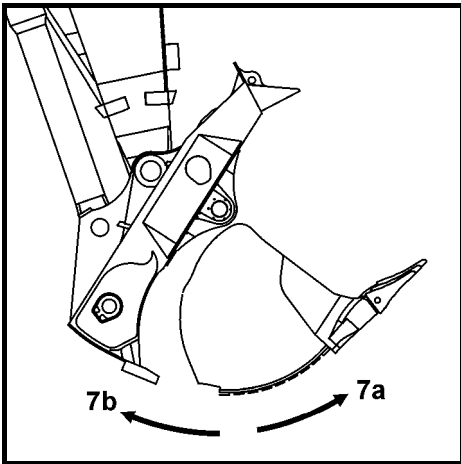

Fig. 38
- Push pedal 7a to open the shovel bucket (Fig. 38).
- Push pedal 7b to close the shovel bucket (Fig. 38).